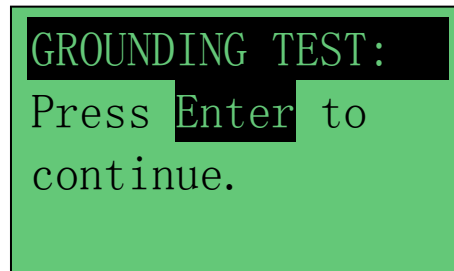

Figure 35
8. Once the Black clip is clamped onto the engine body, the Analyser display will light up as shown. (Fig. 35)